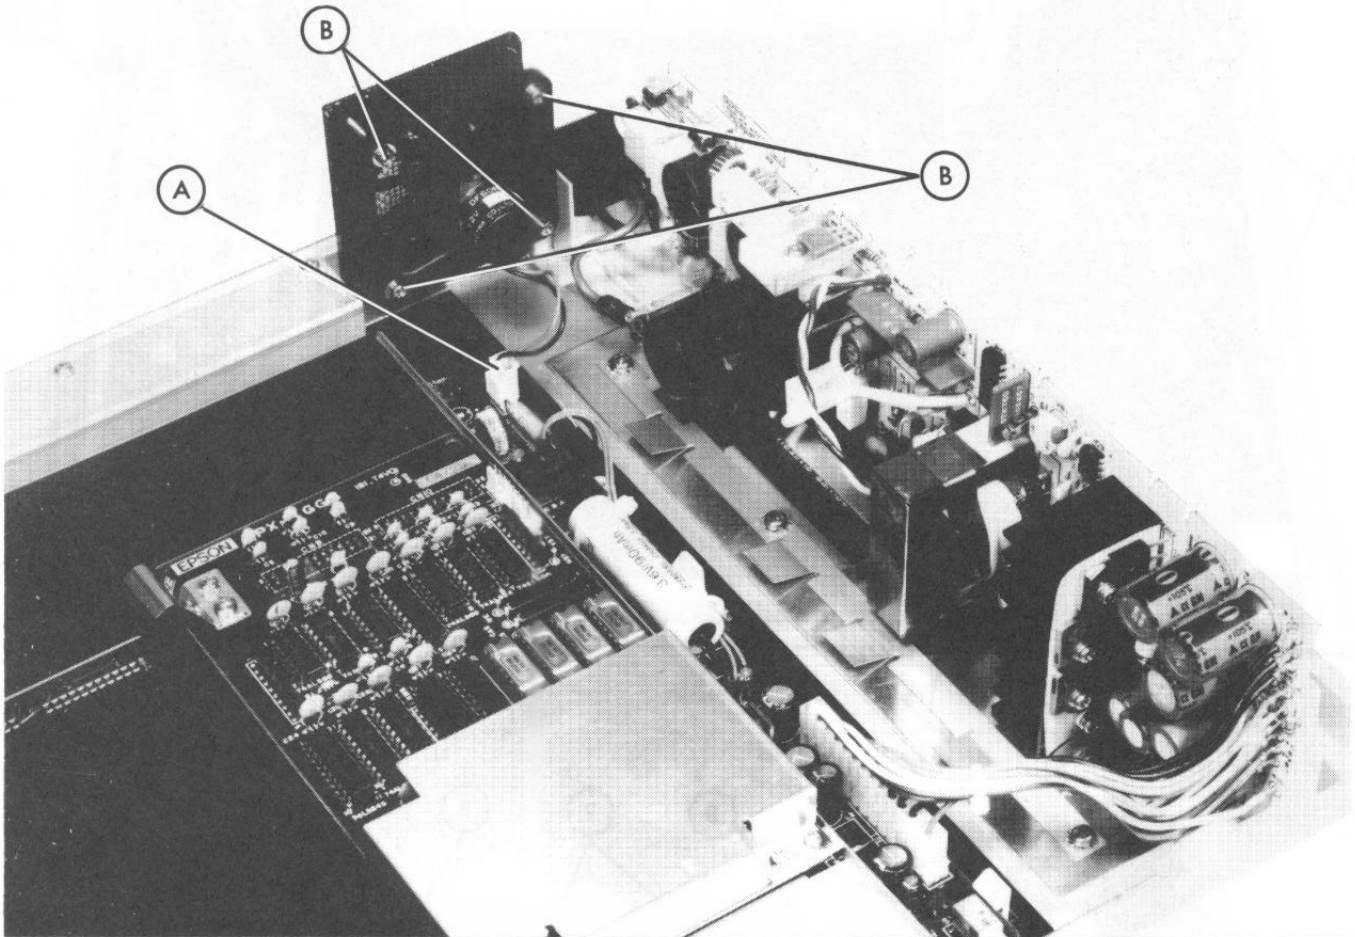

FIGURE 4-6. FAN REMOVAL/REPLACEMENT
4.2.11 Fan Removal (Figure 4-6)
4.2.12 Fan Replacement (Figure 4-6)